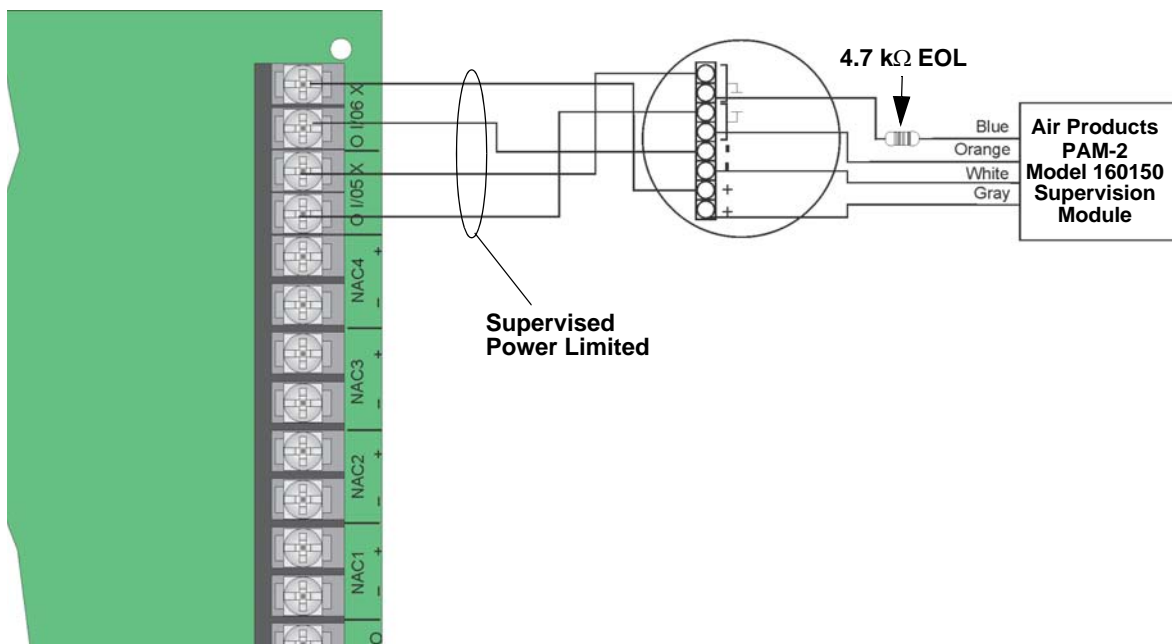
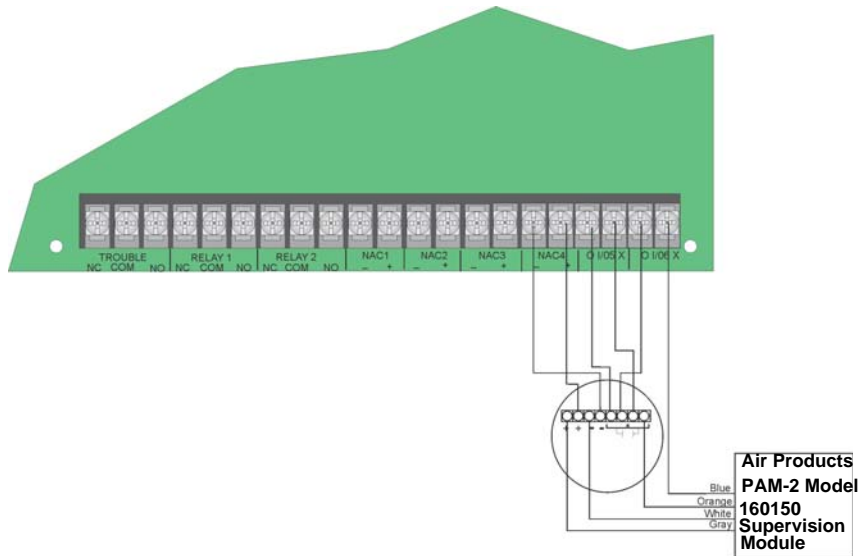

Figure 4-49 Class B 4-Wire Smoke Detector Connections
Figure 4-50 Class A 4-Wire Smoke Detector Connections
Any compatible UL listed four-wire smoke detector can be used with the control panel (see Appendix A for list of compatible smoke detectors). Figure 4-49 and Figure 4-50 illustrate how to connect a UL listed four-wire detector to the control panel.
Figure 4-49 illustrates how to install a 4-wire Class B smoke detector.
2. The Class B loop input is paired with a unique power source as shown in Figure 4-49.
Note: In programming any point that uses multiple Flexput circuits, the lowest Flexput circuit number is used to refer to the circuit pair. In this example, Figure 4-49 uses both Flexput circuit 5 and 6, so in programming it would be referred to as point 5.
Figure 4-50 illustrates how to install a 4-wire Class A detectors.
- Smoke power is supplied to each Class A loop as shown in Figure 4-50.
Note: In programming any point that uses multiple Flexput circuits are always referred to as the lowest Flexput circuit number used. In this example, Figure 4-50 uses Flexput circuits 5, 6 together with NAC 4. In programming (4, 5, 6) would be referred to as point 5.